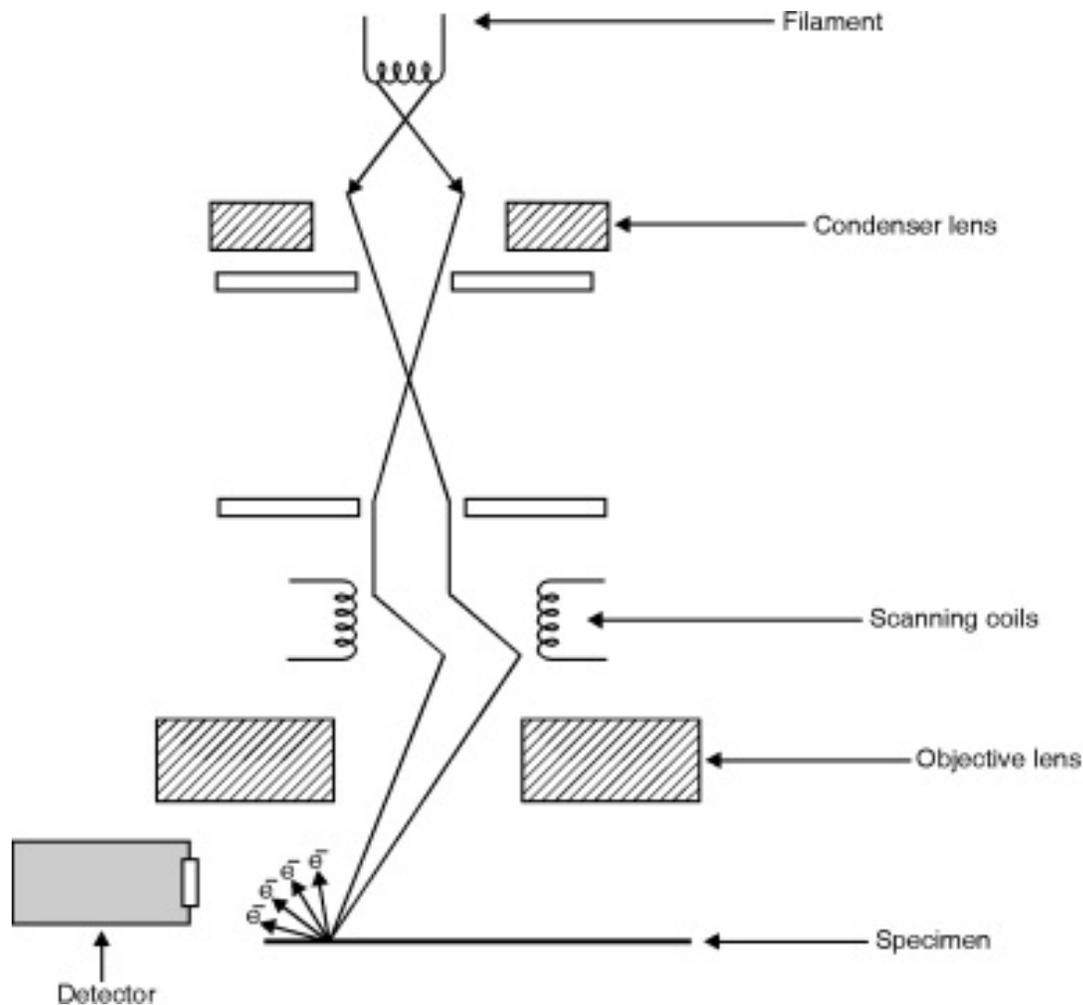

Fig. 8.3.2 : Schematic diagram of SEM
- Construction of SEM is shown in Fig. 8.3.2. Here electron beam is obtained from electron gun and it is made to pass through condenser lens. Next stage is of scanning coil which is used to focus the electron beam on a small spot on specimen surface and also to scan the surface like electron beam scans in TV picture tube.